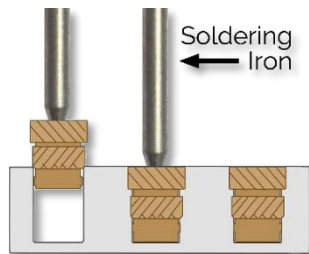
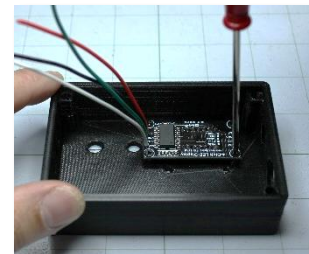

Figure 9
Figure 11
To install the TM1637 LED display, first loosely insert the 4 smaller M2 threaded inserts into the four posts holding the display inside the case (pay attention to the orientation as shown in figure 9). With the tip of your hot soldering iron perpendicularly position in the hole of the nut, apply slight downwards pressure until each of the nuts are flush inside the holes as illustrated in figure 9 & 10. The rectangular hole for the display may need to be slightly filed, so check the fit and if needed, lightly file the opening. Once satisfied with the fit, insert the display inside the project case with the wires toward the middle of the case as illustrated in figure 11, and secure with (4) M2 x 4mm Phillips screws.